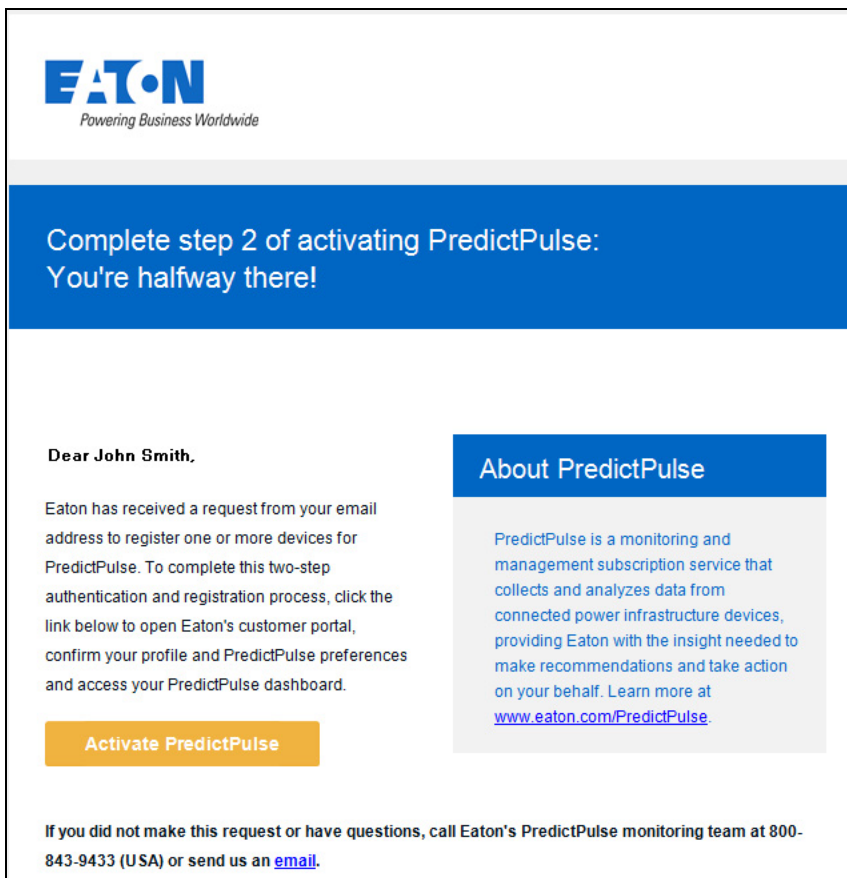

Figure 14. Example Confirmation E-mail
7. After approximately 15 minutes, the contact person identified in the PredictPulse Wizard will receive a confirmation e-mail (see Figure 14).